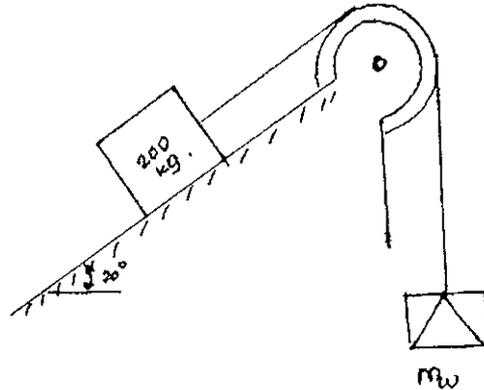

Fig. 7
- (b) Determine the maximum and minimum values of  $m_w$  so that the 200kg block shown in Fig.7 will neither start moving up the  $20^\circ$  incline nor slip down the incline. Take the coefficient of static friction for the contact surfaces as 0.30.